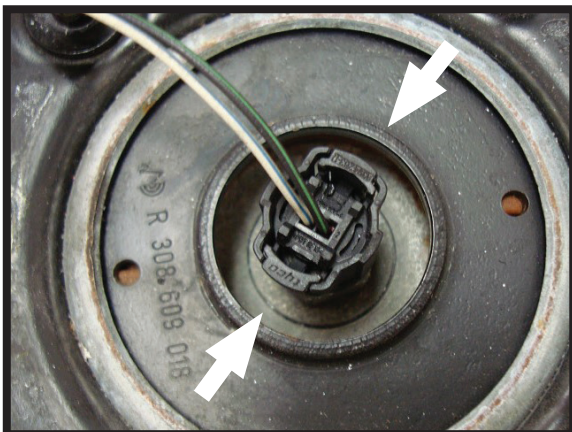

FIGURE 4
6. DISCONNECT THE ELECTRICAL CONNECTOR FROM THE TOP OF THE SHOCK (PUSH ON THE SIDES OF THE CONNECTOR TO RELEASE). **TIE OFF WIRES NOT NEEDED WITH COIL CONVERSION.** (FIGURE 4)